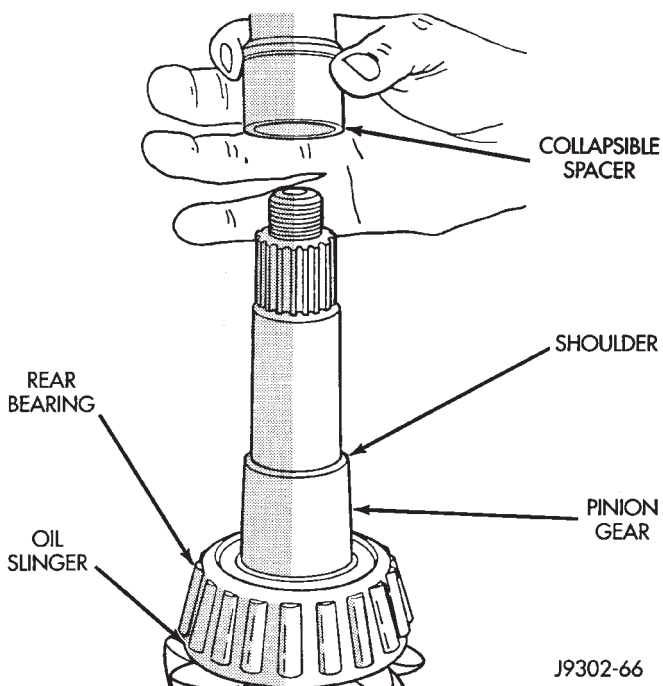

Fig. 20 Collapsible Preload Spacer
(1) Install a new collapsible preload spacer on pinion shaft (Fig. 20).
(2) If pinion gear was removed, install pinion gear in housing.